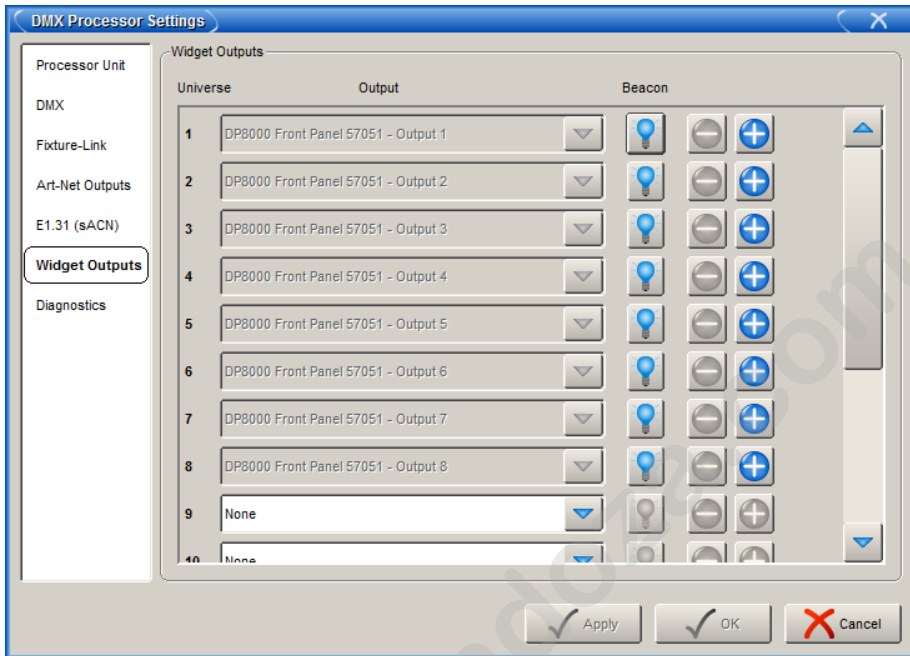

Figure 12.8. The Widget Outputs pane of the DMX Processor Settings window
2. Select the DMX Processor 8000 in the list by clicking on its net number, and press the Settings button to open the DMX Processor Settings window; see *Figure 12.8, “The Widget Outputs pane of the DMX Processor Settings window”*.